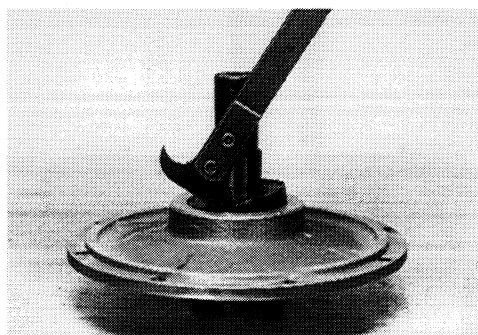

Fig. 28
Remove seal (67). If the unit is equipped with a seal bearing cover and O-ring, it should be removed also (Fig. 28).
Remove the output cover. See Section II for more detail. Remove the seal (67), seal bearing cover and O-ring, if the unit is equipped with one (Fig. 28). Remove the external snap ring from the shaft.